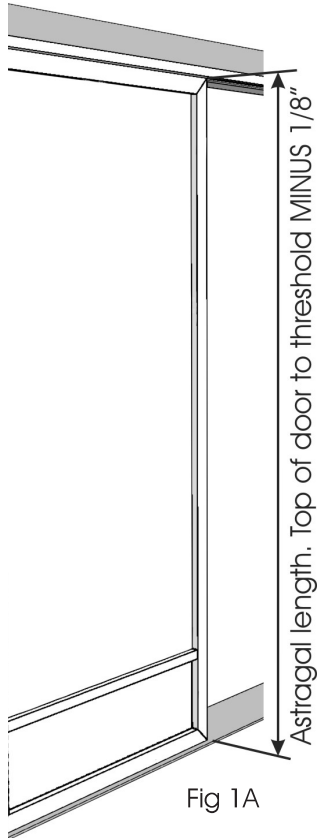

Fig 1A
**1A:** Close stationary door and measure from the top of the door to the top of the threshold MINUS 1/8" (Fig 1A).